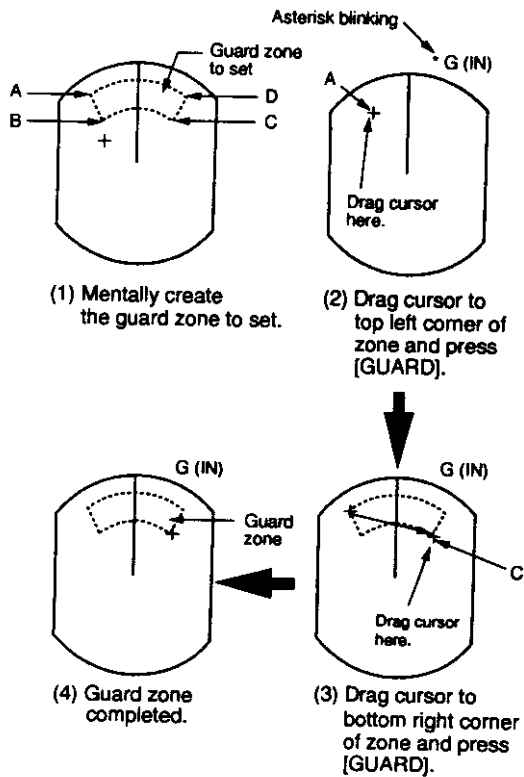

Figure 3-8 How to set the guard zone
1. Mentally create the guard zone you want to set. Figure 3-8 shows an example.
2. Operate the omnipad to set the cursor on point A (or B). Press the [GUARD] key. "G (IN)" or "G (OUT)," with asterisk blinking, appears at the top right-hand corner of the display. See Figure 3-8 (2). (The asterisk indicates the guard zone is partially set.)
- Operate the omnipad to set the cursor on point C (or D). See Figure 3-8 (3).
- Press the [GUARD] key. The asterisk disappears. See Figure 3-8 (4).